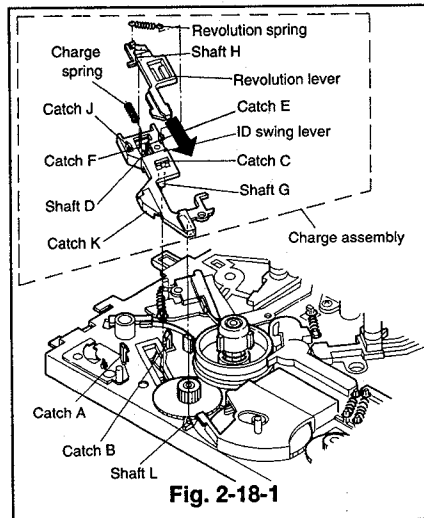

Fig. 2-18-1
- 5 Slide the revolution lever in the direction shown by the arrow and unfasten it from the catch C of the ID swing lever. (Refer to Fig. 2-18-1)
- 2 Fix the charge spring to shaft D of the ID swing lever and compress it to hook its ends with the catches E and F. (Refer to Fig. 2-18-1)
The wider semicircle is on the left as shown in Fig. 2-18-1.
- 3 Align the shaft H of the revolution lever with the position shown in Fig. 2-18-1. Insert catch C of the ID swing lever into the hole of the revolution lever, pushing the charge spring with a revolution lever in the direction shown by the arrow. At the same time, hook the ends of the revolution lever with the catches J and K.
- 5 Install the charge assembly so that shaft G enters into the oval hole of the charge lever on the reverse side of the deck and the groove of the charge assembly fits the shaft as shown in Fig. 2-18-1. Secure the charge assembly with the catch A and B.